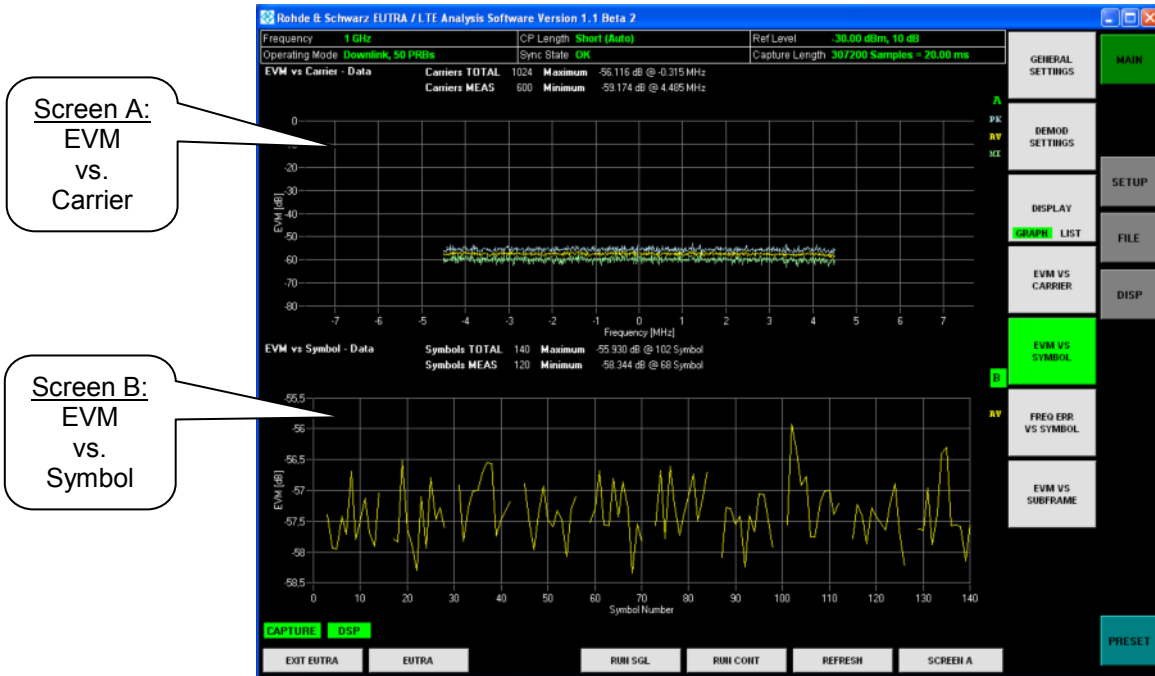

Figure 4-9 Analyzing EUTRA/LTE DL signals – EVM vs. Carrier resp. vs. Symbol
2. EVM vs. Carrier (Figure 4-9: Screen A)
3. EVM vs. Symbol (Figure 4-9: Screen B)